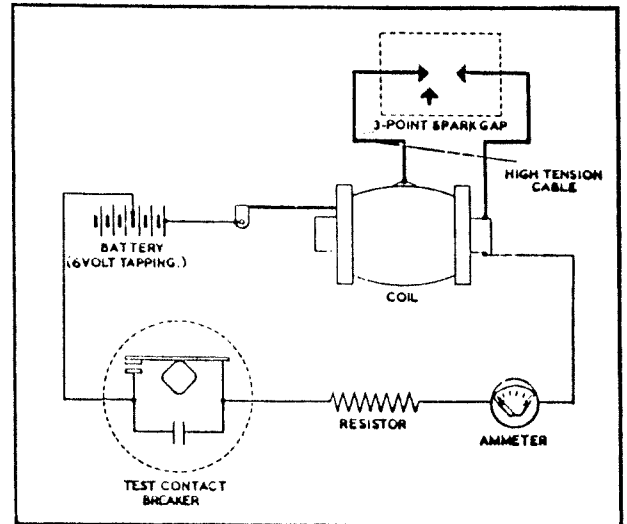

Fig. 8.
- (i) Connect up as described before but remove the connections from the magneto body to the iron core of the coil, see Fig. 8.